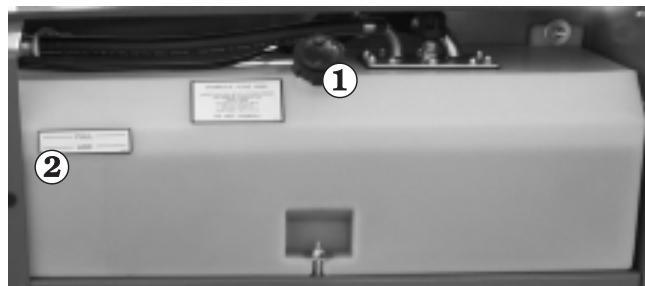

Figure 7.13 - Hydraulic Oil Tank
Check to see that the cap ① is in place and is tight (see Figure 7.13).
The hydraulic oil level should be at the full level according to the gauge ② (see Figure 7.13). If necessary, add hydraulic oil at the Hydraulic oil tank cap. See the “Specifications” chapter 3 for type and grade of hydraulic oil.